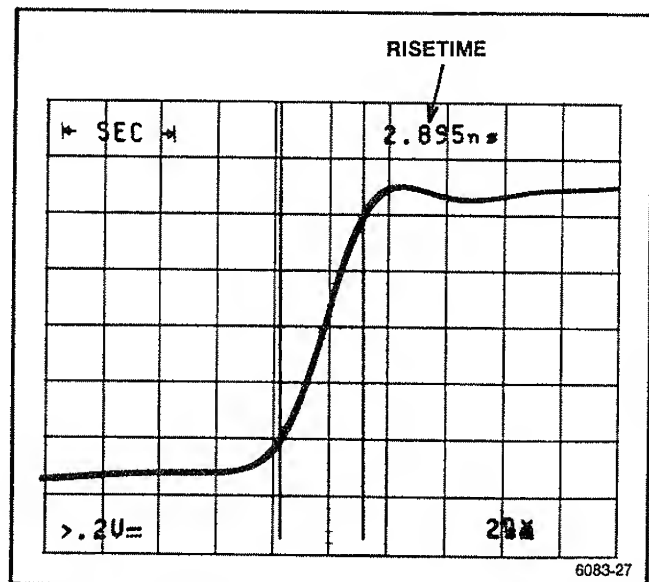

Figure 6-13. Rise time measurement.
4. Advance the SEC/DIV setting to stretch out the rising edge of the waveform as much as possible to improve the cursor placement accuracy (see Figure 6-13).
7. Use the 1- OR DELAY control to align the first cursor to the rising edge at the point it crosses the 10% reference graticule line. Then use the → OR Δ control to align the second cursor to the point that the rising edge crosses the 90% graticule line and read the rise time displayed in the top line of the crt readout (see Figure 6-13).